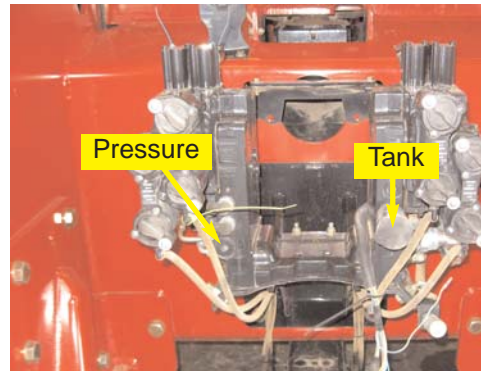

Figure 3a. Pressure and tank location.
- a. The automated steering block will receive pressure from the bottom left port on the valve stack. Some models have a quick coupler in this pressure port. (Figure 3a. and 3b.)
- b. The tank connection is the bottom right port on the valve stack. Some models have a quick coupler in this return port. (Figure 3a. and 3b.)